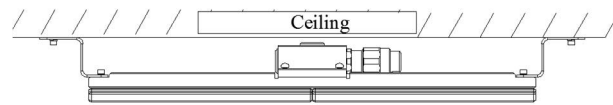

Figure 3
- ☞ Position the bracket holders and fix it by means of the provided M6 screws, 24.5 kgf-cm. (Figure 3)